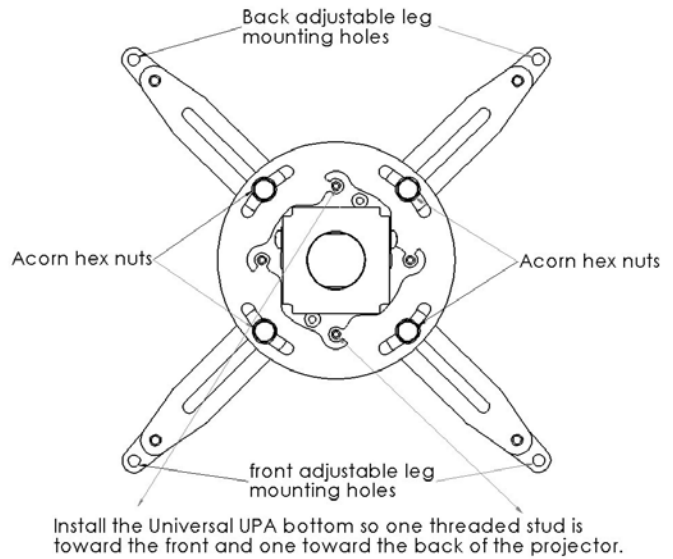

Figure 1. UPA Acorn Nuts
1. Loosen, but do not remove, acorn nuts securing arms of the UPA (see Figure 1).
10. Make sure the threaded studs on the round plate is centered on the front and one to the back center of the projector (see Figure 1).